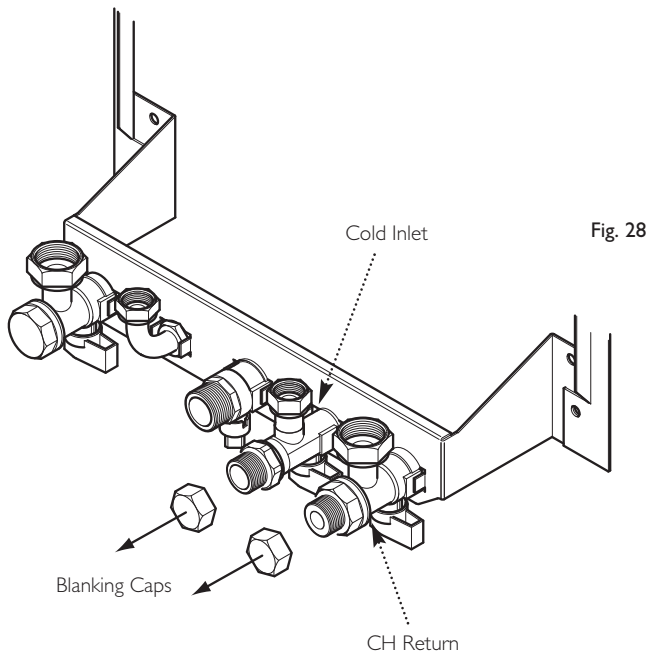

Fig. 28
5. Remove the blanking caps from the mains cold water inlet and central heating return isolation taps (Fig. 28). Connect the valves to the taps, ensuring that the fibre washers supplied are used on these joints.